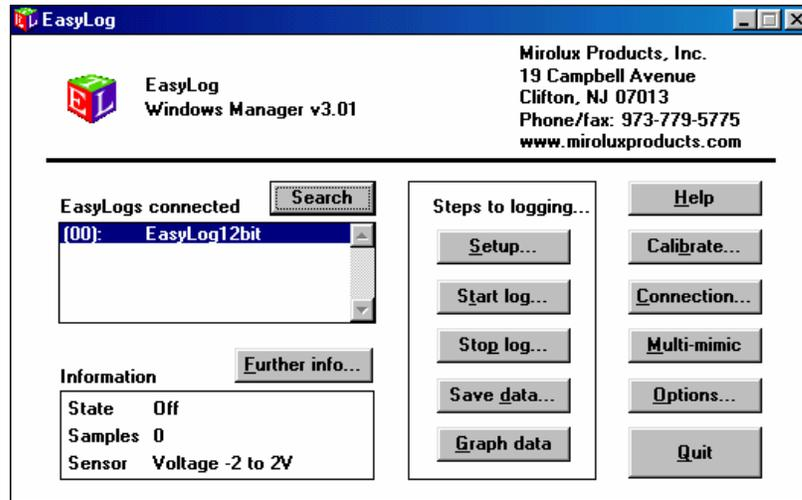
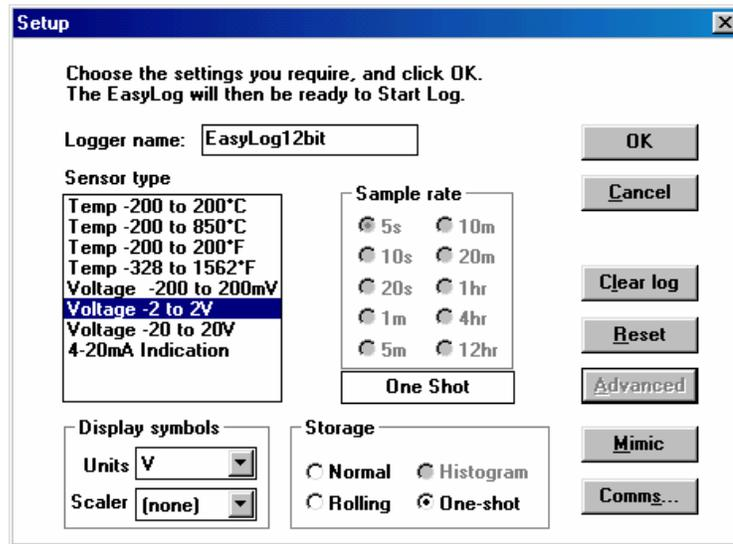
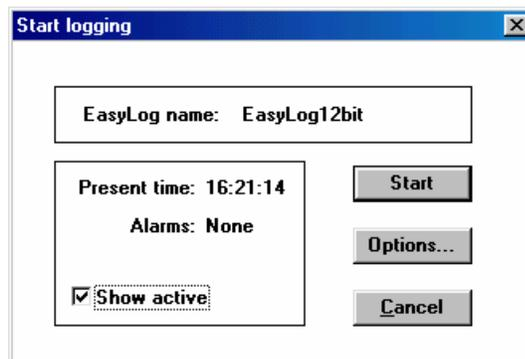

Figure 1 – Main Software Screen
Figure 2 – Setup Screen
Figure 3 – Start Logging Screen
- Select "**Search**" to allow the software to search for the connected datalogger (Figure 1).
- After identifying the datalogger, click on the "**Setup**" button (Figure 1), then on the "**Advanced**" button to double check the pre-set MiroLux factory calibration settings identified below (refer to Figure 2).
- Click on the "**Start Log**" button (Figure 1) to prepare the datalogger to store data. The screen in Figure 3 will appear. Here you can check the box "**Show Active**" that allows you to confirm the unit is functioning through the presence of a blinking icon on the datalogger's LCD. Note that the icon will only be present after the unit has been instructed to start logging
- Click on the "**Start**" button (Figure 3) to initialize the datalogger (**A data value will only be stored when the button on the datalogger is depressed. This is identified as the "one-shot" mode.**) The unit should now be disconnected from the computer and attached to the retroreflectometer with the second communication cable that is provided. (You should hear an audible click when attaching the cable to the datalogger) (See Figure 1, page 2 of this manual for the location of the datalogger's port).
- Select **“Search”** to allow the software to search for the connected datalogger (Figure 1).
- Click on **“Stop Log”** (Figure 1) to terminate the datalogger’s ability to log any more data points and place it in a power saving mode.
- Click on the **“Save Data”** button (Figure 1) and enter a name for the file. By default, the file will be stored in the C:\easylog folder. You may notice a small **“Transferring Data”** window appear as the data is stored to the file name you have chosen. By default, the file is saved as a text file (.txt).
- ***You cannot use the “graph data” function of the EasyLog software using the “one-shot” logging mode (Figure 1).***
- Note that after replacing a run-down battery, the datalogger may need to be recalibrated. With the datalogger hooked up to the computer, follow the steps in number 2 above, ensuring all values are set as specified. Then, click on the **“Calibrate”** button (see Figure 1). Simply click on the **“Default”** button to calibrate the unit. This should allow the datalogger to record accurate readings.
- The datalogger has a large amount of memory that can store up to 8,000 data points. However, to ensure the memory does not become full, you should clear the memory after the data for a specific project or location has been downloaded to a computer. To clear the memory, click on the **“Clear log”** button on the **Setup** screen (Figure 2). Follow the steps outlined above to collect new data.